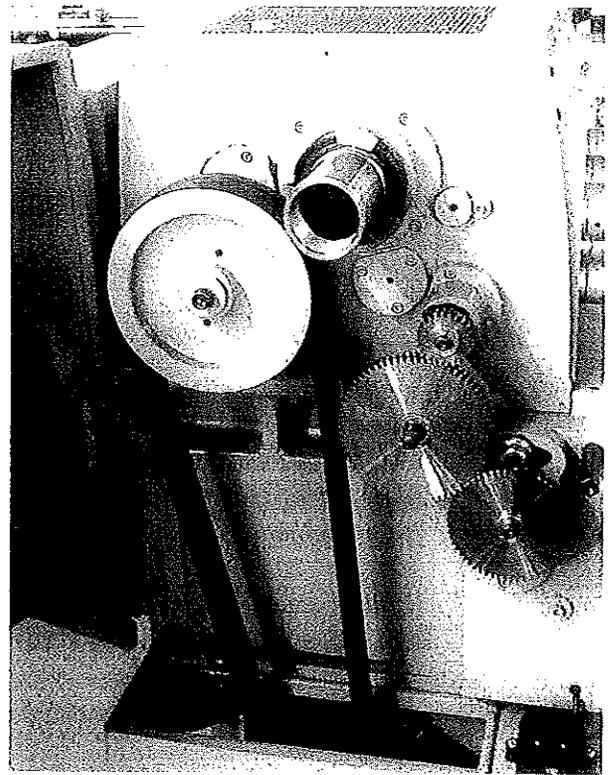
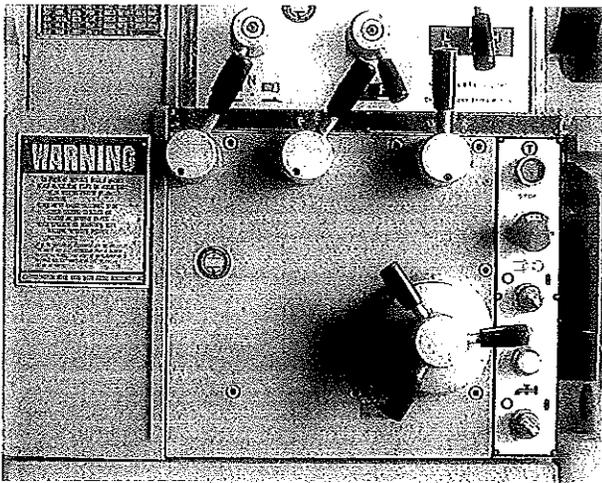

Figure 2
Figure 3
- c. If the problem is not in the headstock, and before you continue to the gear box, check the change gears (Part # 41, 78 & 89) located on the back of the headstock for proper backlash and alignment. ( **Figure 2** ) If these gears are found to be in good working order perform the same sequence as above on the gearbox. (engage one control at a time until the problem is located. ( **Figure 3** )